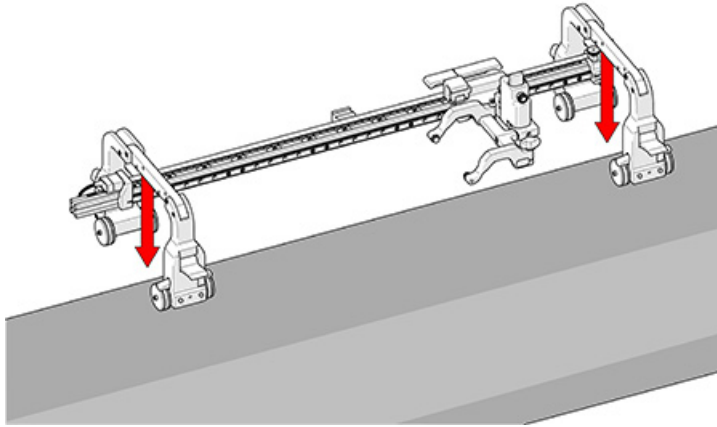

Figure 2-10 Placing magnetic scanner on scan surface
4. Place the MapSCANNER on the scanning surface (see Figure 2-10 on page 40).